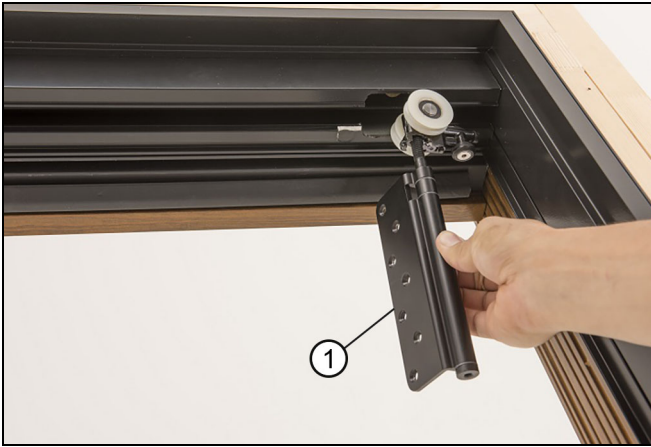

Figure 42
1. Place any top roller hinges numbered 3-5 in the head track in the correct order using the configuration diagram as a guide for your configuration. See Figure 42.